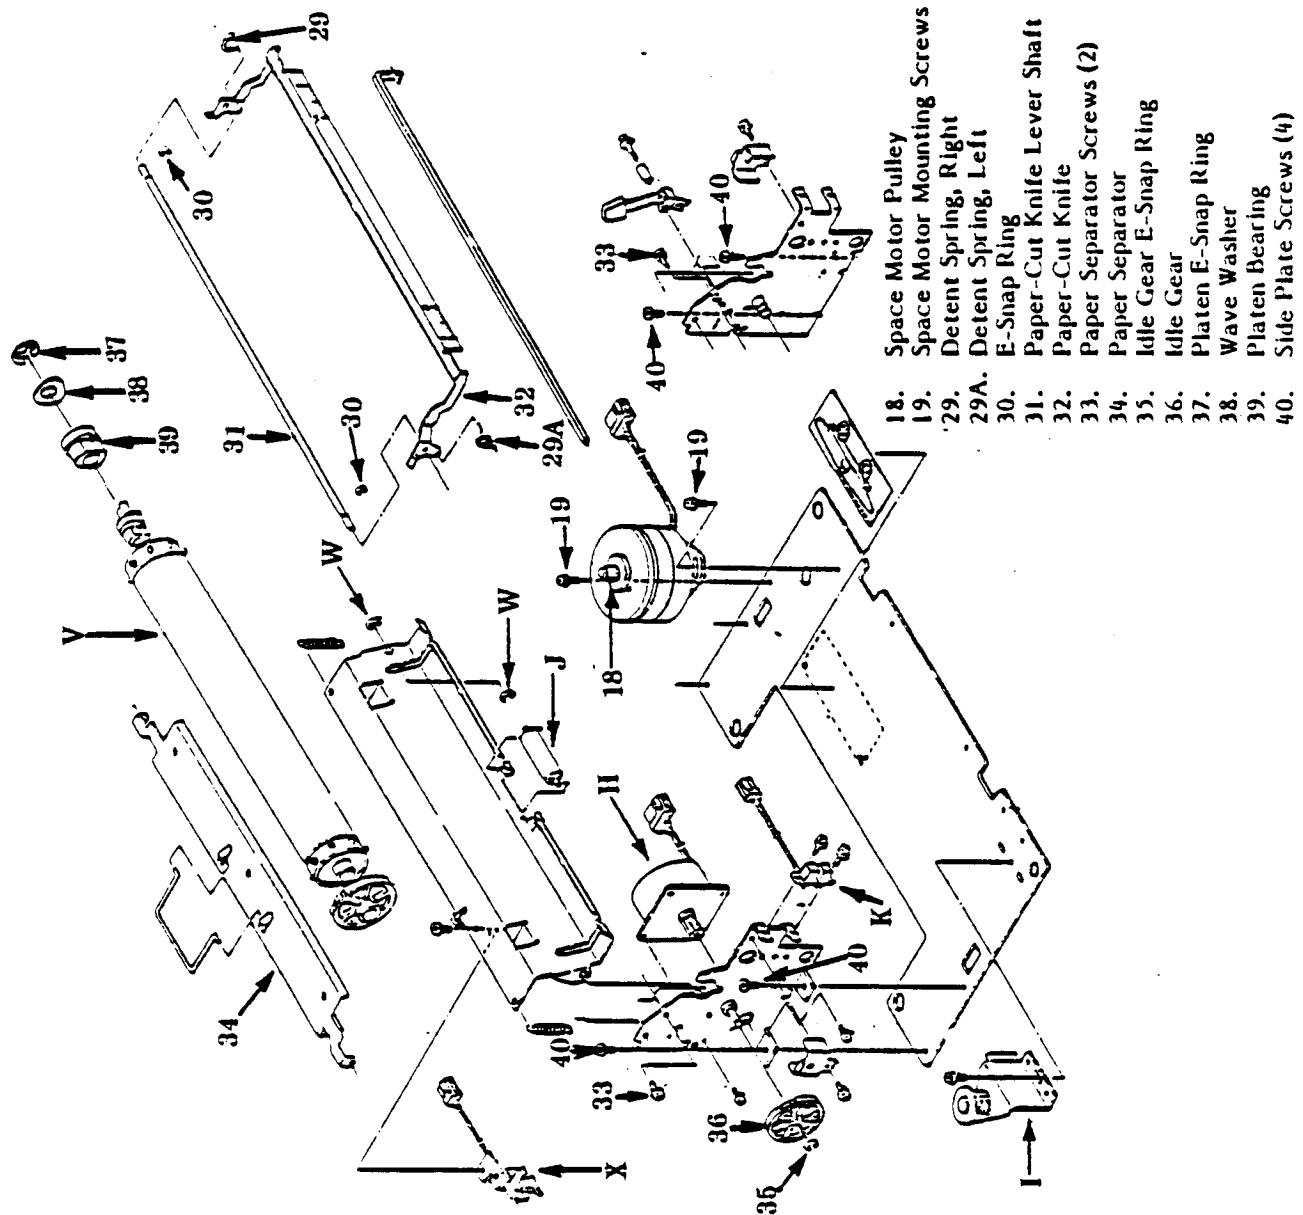

Figure 4-4. Base Unit Assembly (T)
- Replace the platen bearing assembly (Figure 4-4, #37-39).
- Replace the idle gear and its E-snap ring (Figure 4-4, #35,36).
- Attach the paper separator with its two screws (Figure 4-4, #33,34).
- Attach the paper-cut knife and its lever by inserting the lever shaft through the side plates and affixing the E-snap rings (Figure 4-4, #30-32).
- Replace the two detent springs (Figure 4-4, #29 and 29A).
- Loosen the paper separator screws (Figure 4-4, #33)
- Insert and tighten the four side plate screws (Figure 4-4, #40) to the bottom metal plate.